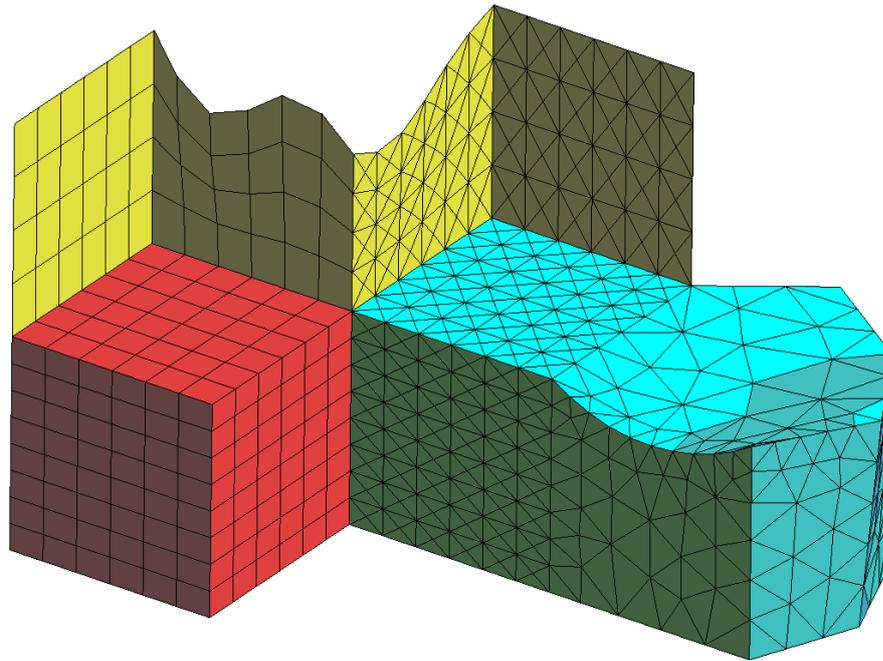
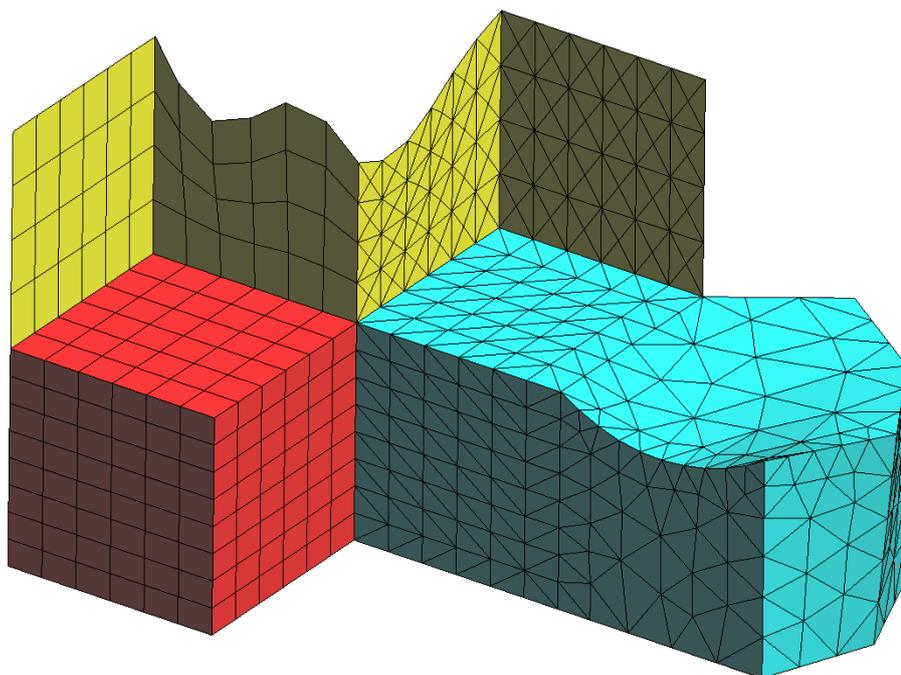

Figure 9. Structured volume mesh of hexahedra and tetrahedra
Figure 10. Structured volume mesh of tetrahedra with the option Symmetrical structured tetrahedra not set.
- 9 . Another window comes up in which to enter the maximum element size. Leave the default value unaltered and click **OK** . The result is the mesh shown in Figure 10.
- 10 . GiD can obtain volume structured meshes made of hexahedra, tetrahedra or prisms. As can be seen in Figures 9 and 10, there are two kinds of tetrahedron structured mesh: the one shown in Figure 9 is obtained when the option **Utilities->Preferences->Meshing->Symmetrical structured tetrahedra** is set. If this option is not set, the mesh presented in Figure 10 is produced (with fewer nodes than if using the previous option; also, it is not topologically symmetrical).